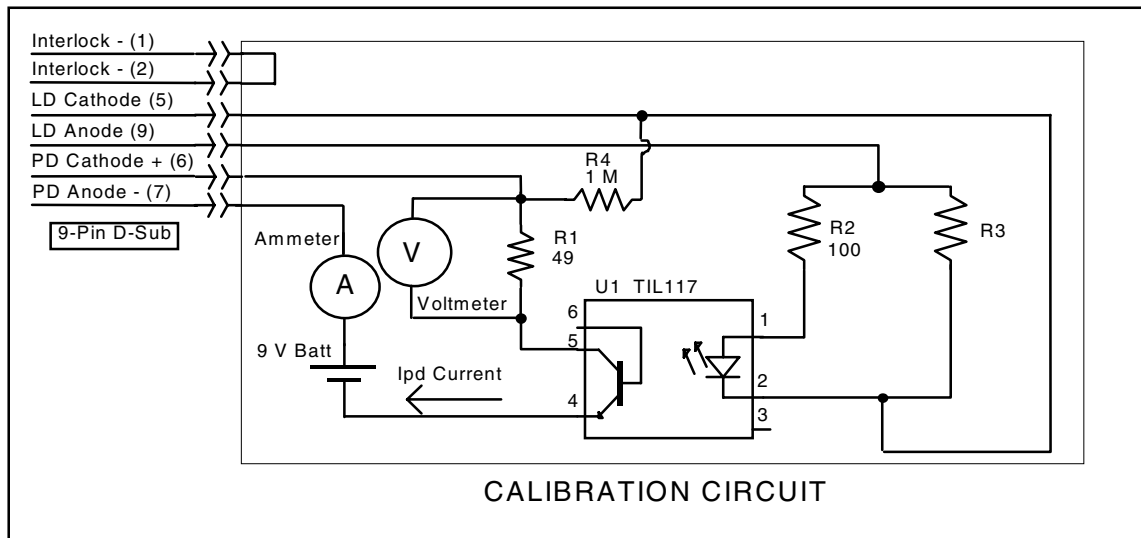

Figure 3.1 I_{PD} Calibration Circuit
- 1 With the LASER output off, connect a calibrated ammeter to the PD Anode output of the CSM-39400, and connect the circuit of Figure 3.1 to the LASER and PD outputs.